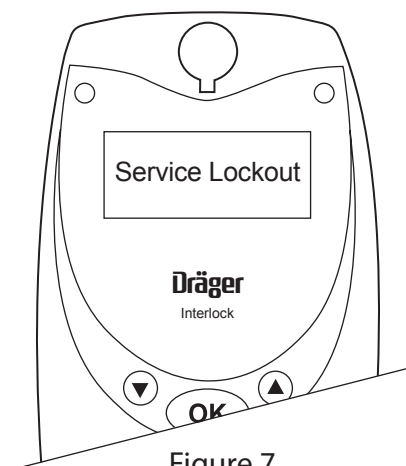

Figure 7
- If you do not get the device serviced, it will go into permanent lockout. When you try to start your vehicle, you will see "**Service Lockout**" (Figure 7).